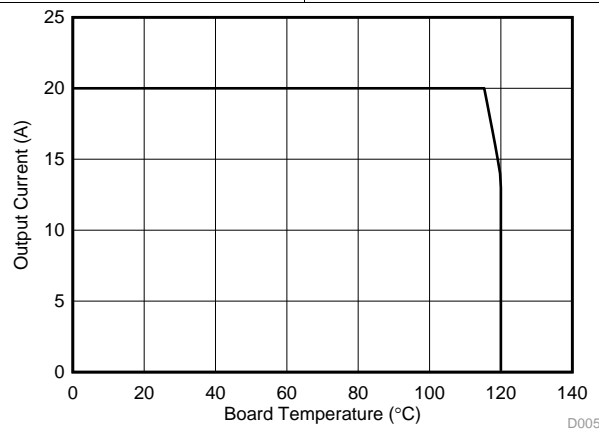

图 3. Typical Safe Operating Area (SOA) (1)
The SOA curve in the CSD86336Q3D data sheet provides guidance on the temperature boundaries within an operating system by incorporating the thermal resistance and system power loss. 图 3 outlines the temperature conditions required for a given load current. The area under the curve dictates the safe operating area. All the curves are based on measurements made on a PCB design with dimensions of 4 in (W) × 3.5 in (L) × 0.062 in (T) and 6 copper layers of 1-oz copper thickness.